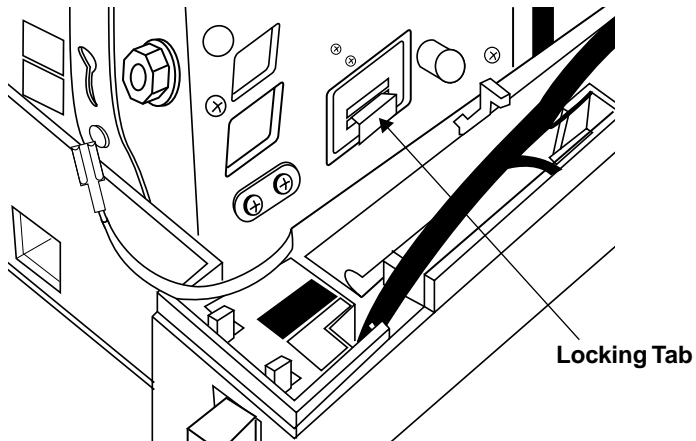

Figure 5-8. Sliding Printer Locking Tabs
- Slide the two printer locking tabs (black plastic) toward the front of the register while pressing downward, as shown in Figure 5-8.